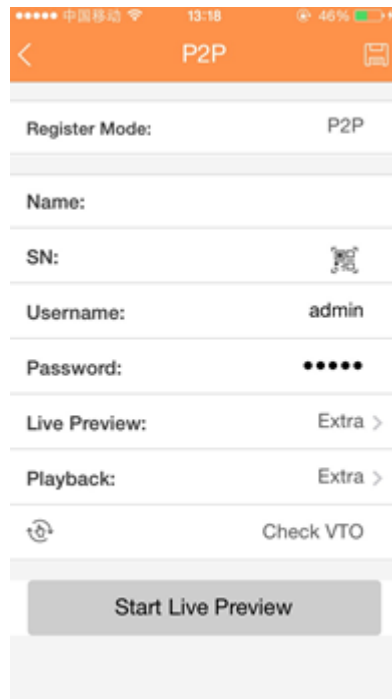

Figure 4-142
- Click  to save current setup. Tap Start Live preview to view all-channel video from the connected device. See Figure 4-142.